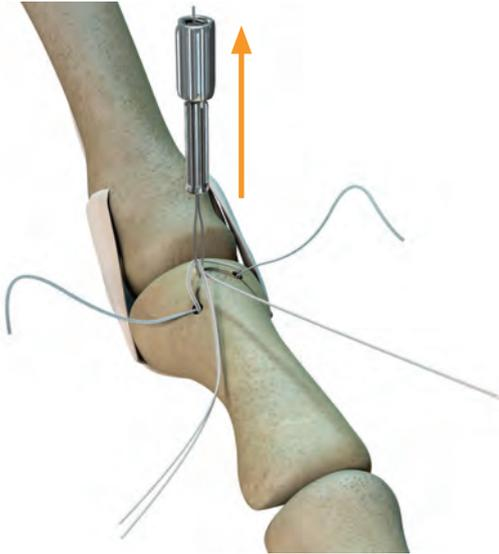

Figure 22
1. Separate the plantar plate sutures and the collateral ligament sutures by color. Pass the plantar plate sutures through the suture tensioner (REF 72204324) using the 5 inch (12.7mm) Nitinol Suture Passer from the sterile procedure pack (Figure 22).